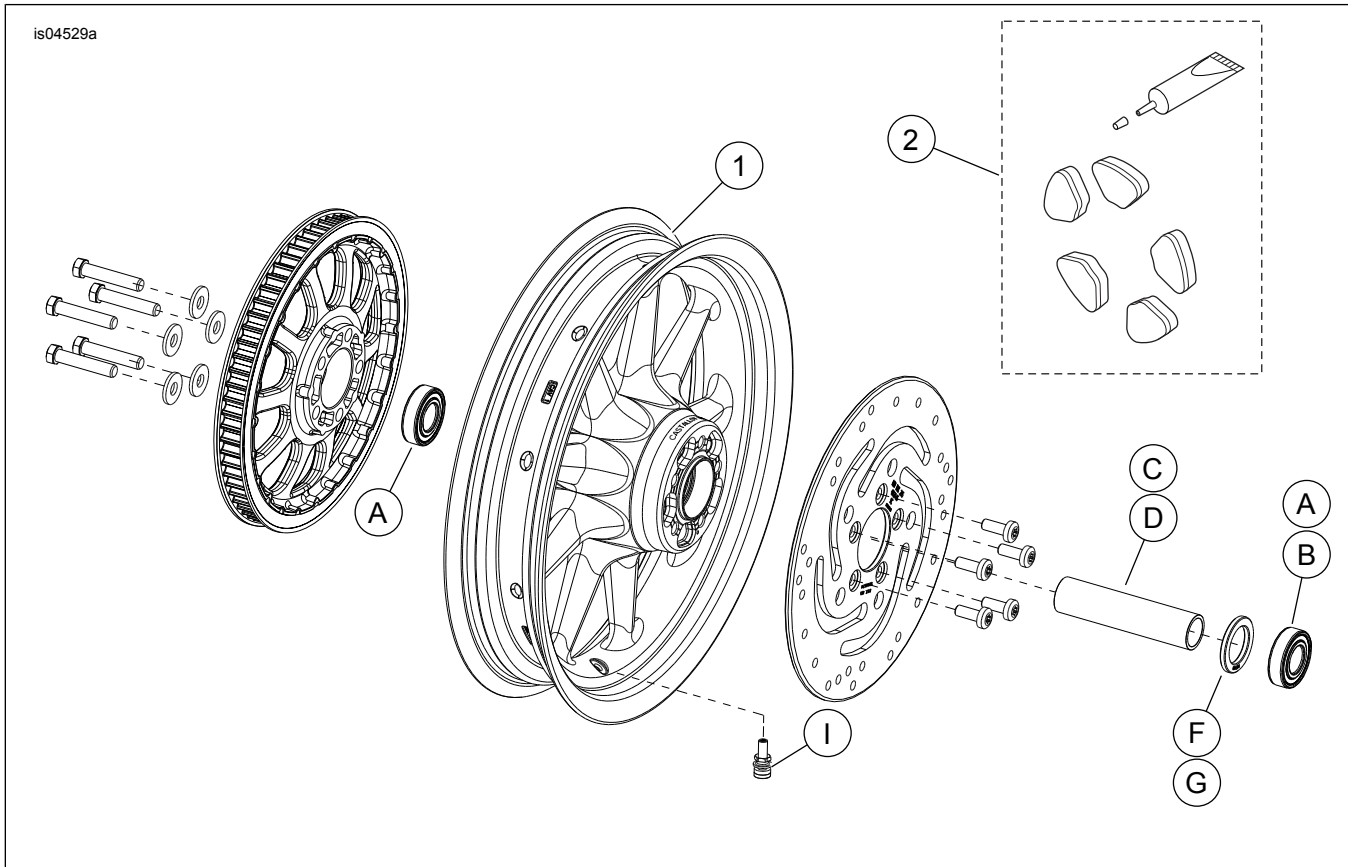

Figure 1. Service Parts: Rear Nine-Spoke Wheels
See Figure 1. and Table 2
2. See Figure 1. Install valve stem assembly (I) on wheel. Refer to TIRES in service manual.